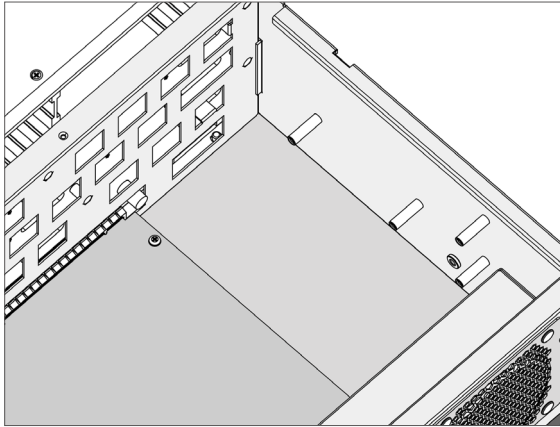

Figure B-5, Removing the Cover
1. Loosen the screws and remove the cover from the ARC-7316 enclosure, as shown in Figure B-5.